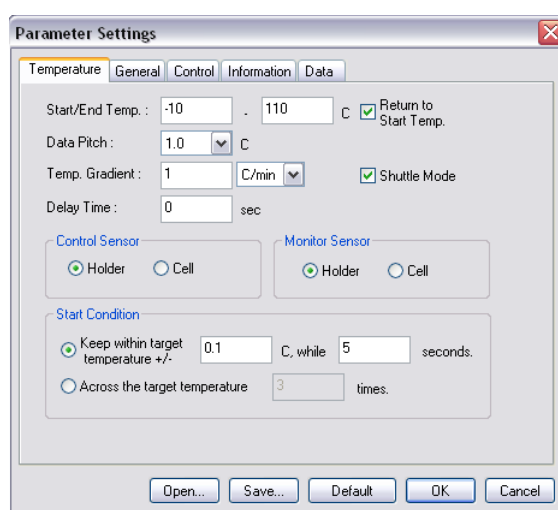

Figure 5.2 [Temperature] dialog box
**Note:** The menus of the [Temperature] dialog box depicted in Figure.5.2 are the same as those of [Variable Temperature Measurement].